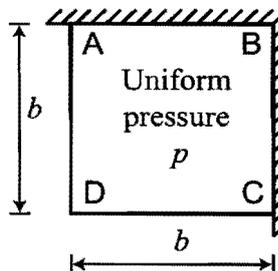

Figure 2
- The square reinforced-concrete floor slab shown in Figure 2 is simply supported on edges, AB and BC ; the other two edges are free. The slab reinforcement is uniform and isotropic, and the fully plastic moments of resistance per unit length are m and m' in sagging (hinge pointing down) and hogging (hinge pointing up), respectively.